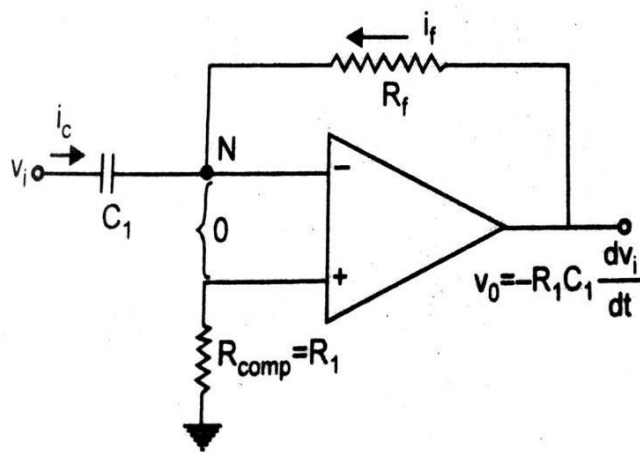

Fig. 4.21 (a) Op-amp differentiator
- A differentiator is a circuit in which the output waveform is the derivative of input waveform. A differentiator circuit is shown in the figure 4.21(a).